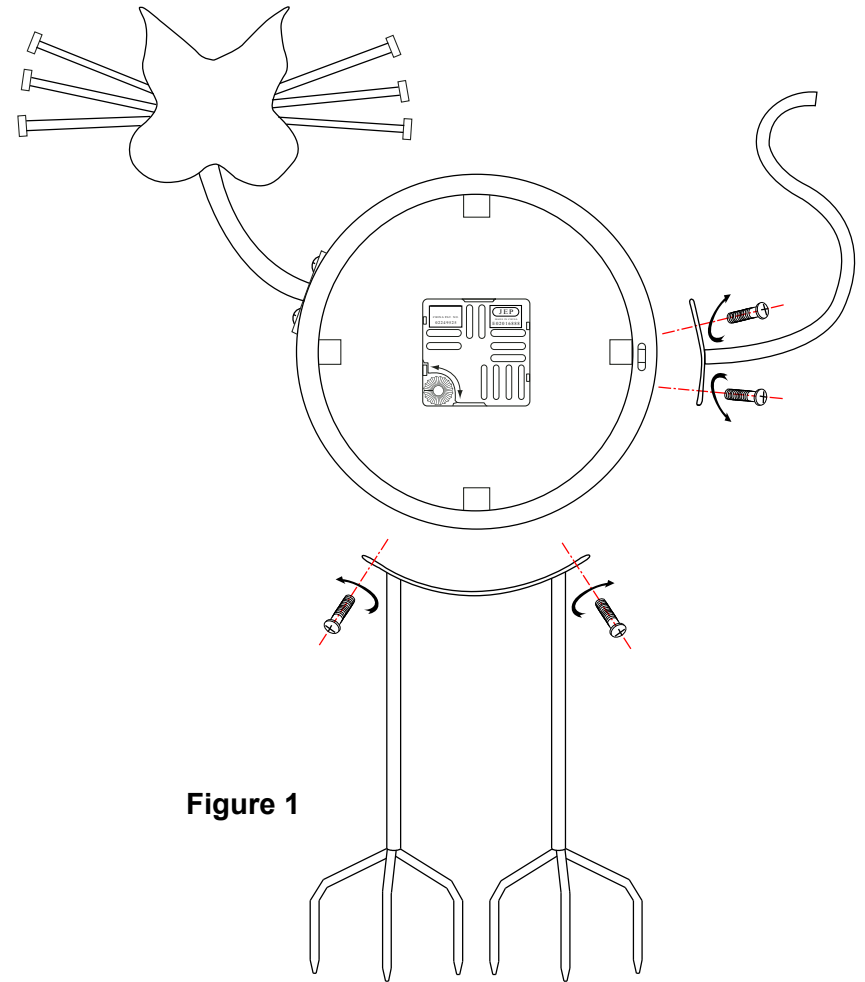

Figure 1
**Temperature gauge adjustment:** Temperature is adjusted by the knob shown on the Figure 1.